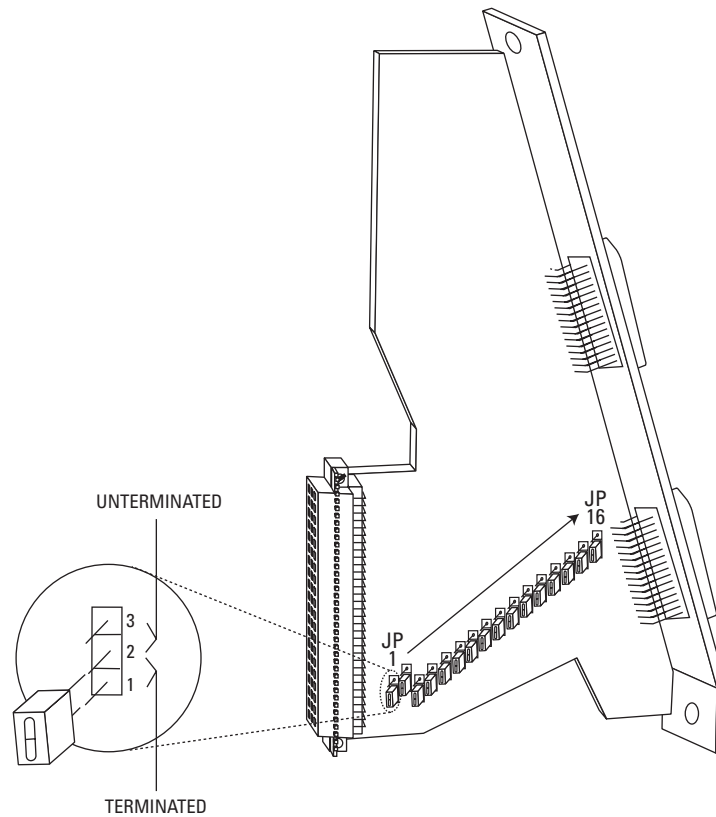

Figure 22. Termination Jumpers on CM9760-DFC Downframe Card
1. Set termination jumpers JP1-JP16 (refer to Figure 22) in the proper position: